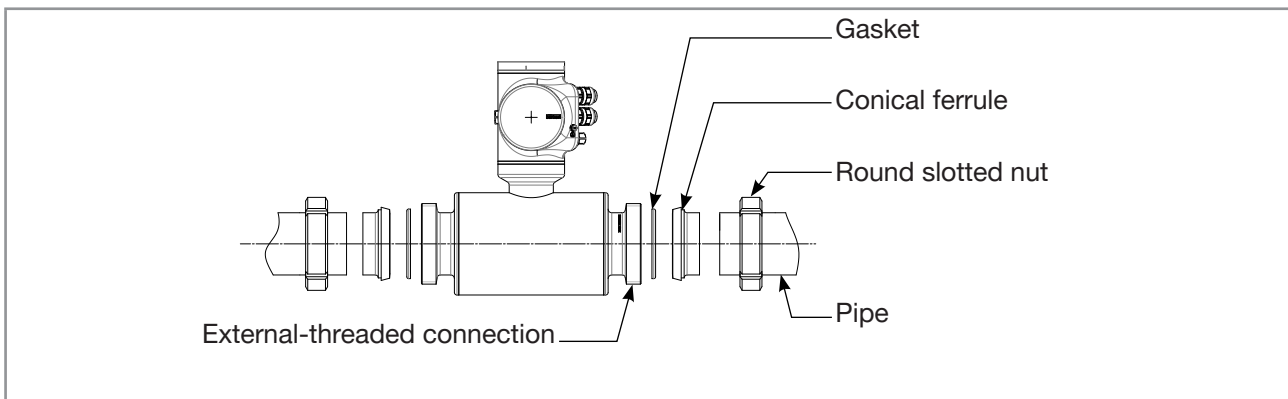

Figure 20: Mounting order of the accessories
1. Put the round slotted nuts on the pipe. Respect the mounting direction of the round slotted nuts so that they can be screwed on the external-threaded connections of the device. Refer to Figure 20.